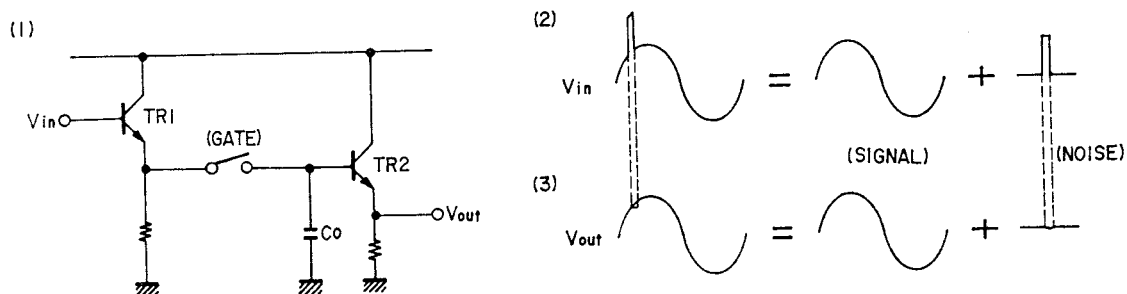

Fig. 19 Basic circuit for pulse noise suppression and wave forms
When the gate is closed as in Fig. 19(1), condenser C_o is driven by a low impedance (emitter follower TR1) and therefore the output signal is the same as the V_{in} input.
When pulse noise enters, the gate opens immediately, and condenser C_o maintains the signal level prior to noise input. When the noise stops, the gate closes and the wave form returns to normal. The output wave form V_{out} becomes similar to the wave form of Fig. 19(3). In terms of noise alone, it means that the noise (2) is suppressed as in (3).
When the aforementioned circuit is used on the stereo signals, the pilot signal is cut out while the gate is open and distorts the stereo composite signal to generate irritating noise. To prevent this distortion, during the time gate is open a 19 kHz sine wave of the same amplitude and phase as that of the pilot signal is generated from the pilot signal generating circuit (19 kHz sine wave generating circuit). This is added to the holding condenser Fig. 19(1) electric potential while the gate is open and compensates the pilot signal.